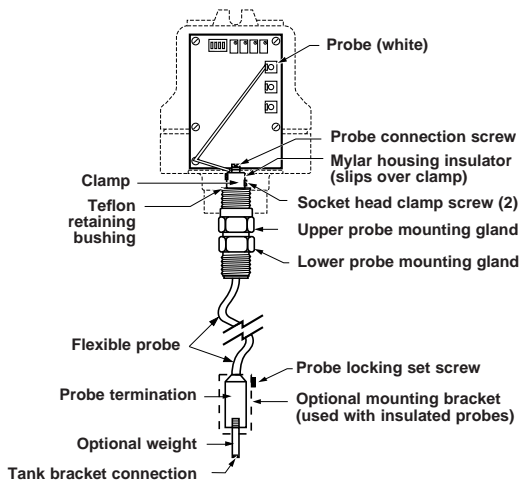

Figure 10
1. Unscrew probe from probe housing. Remove mylar housing insulator located over the clamp. Refer to **Figure 10**.
2. Attach weight (if used) to probe end. Refer to **Figure 10**.
18. Remove electronic assembly by loosening three screws in base. Refer to Figure 10.
20. Attach white PROBE wire (shipped in plastic bag) from probe terminal on circuit board to probe screw on the top of the probe. Be sure wiring is passed through opening on the bottom, left of the circuit board; and the bottom, center of the mounting bracket. Refer to Figure 10.